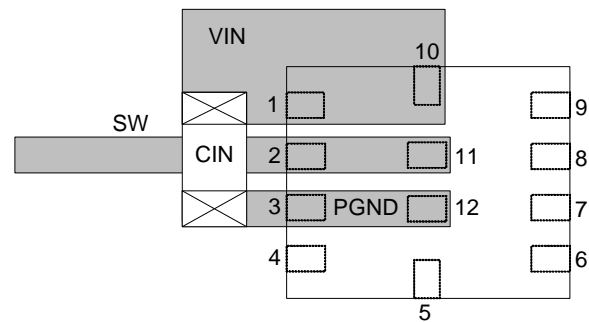

Figure 1. The 1210 Size Ceramic Capacitor Close to VIN and PGND
1. As shown in Figure 1, the 1210 size ceramic capacitor is used, please make sure the two ends of the ceramic capacitor be directly connected to VIN (the power input pin) and PGND (the power GND pin)